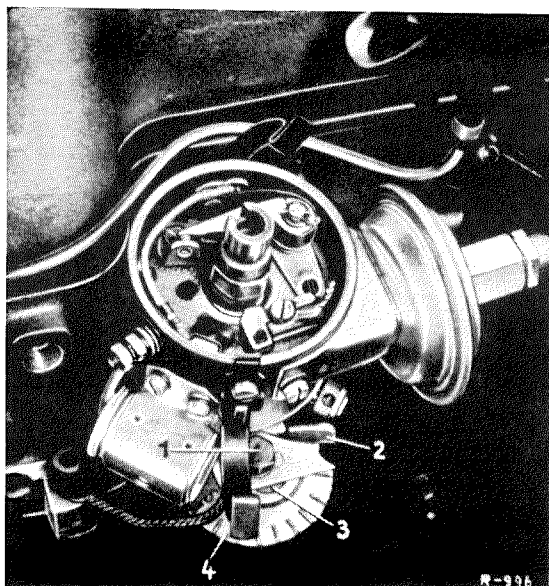

Fig. 01-4/51 a
On recent models the adjusting screw and control cable on the distributor bearing have been replaced by a hand lever (2) with eccentric disk (Figs. 01-4/51 a and 01-4/51 b). In addition, the stud screw (14) which projects into the circular groove in the distributor collar, is no longer fitted (Fig. 01-4/50).
On Model 220 SE the distributor bearing also serves as a cover plate and is screwed to the end face of the crankcase (Fig. 01-4/51 b).